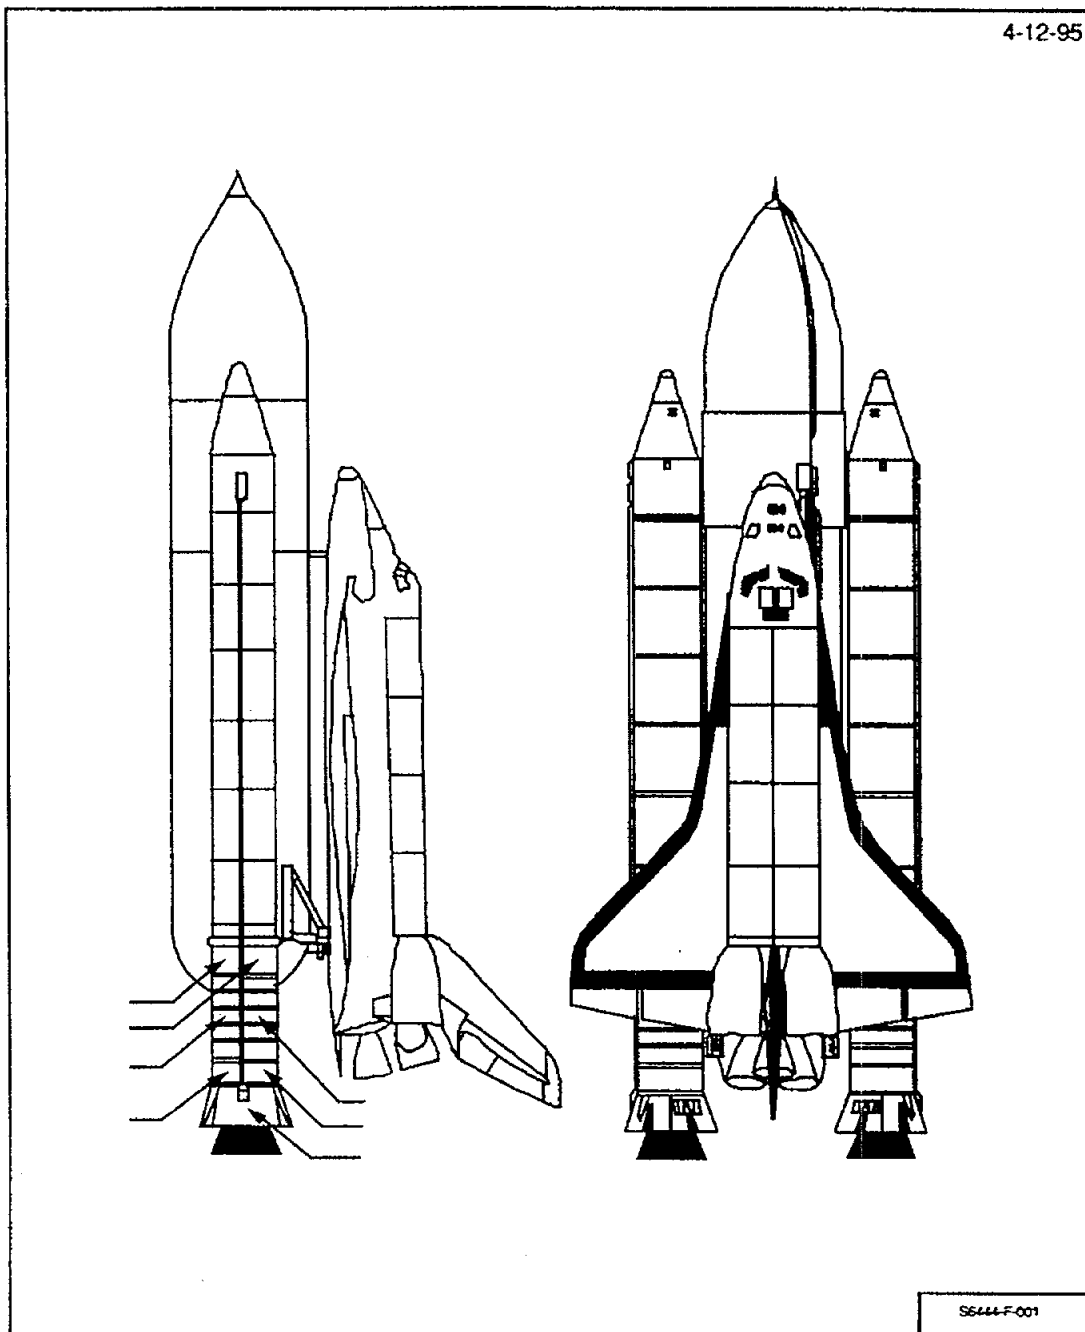

Figure 80-1: Deck (0) Level
3. See Figures 80-1 through 80-4, **measure and record** (deg F) SSV external surface temperatures using IR gun(s)/scanners.
① 2nd. Sec. ETM 8/16/01